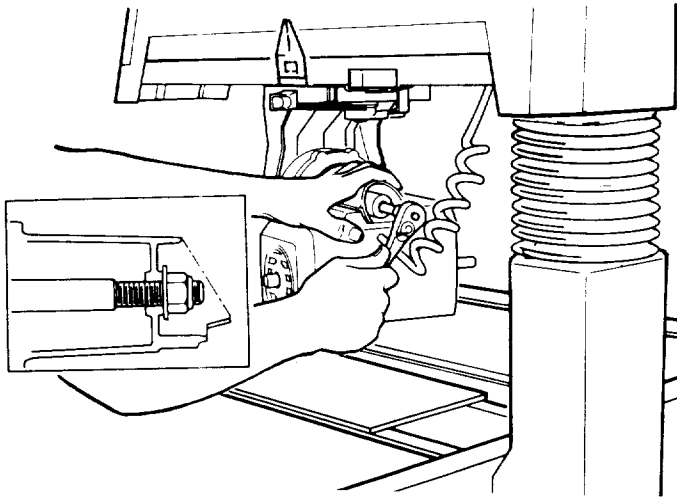

Fig. 25
7. Remove the lock nut and flat washer from the *motor pivot support*. (Figure 25)